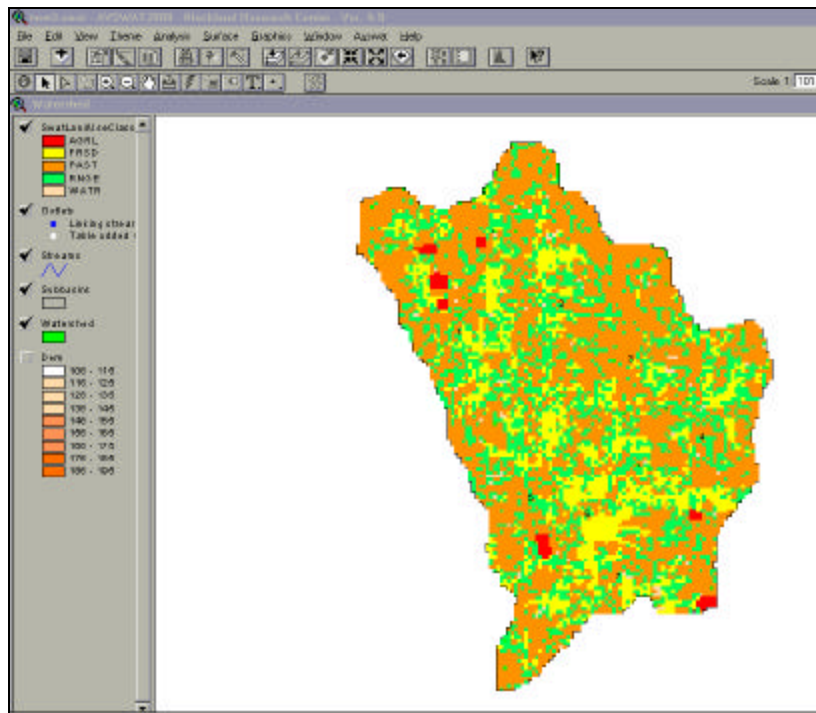

Figure 6.25
- A new theme named "SwatLanduseClass" will be displayed in the *Watershed View* (Figure 6.25).